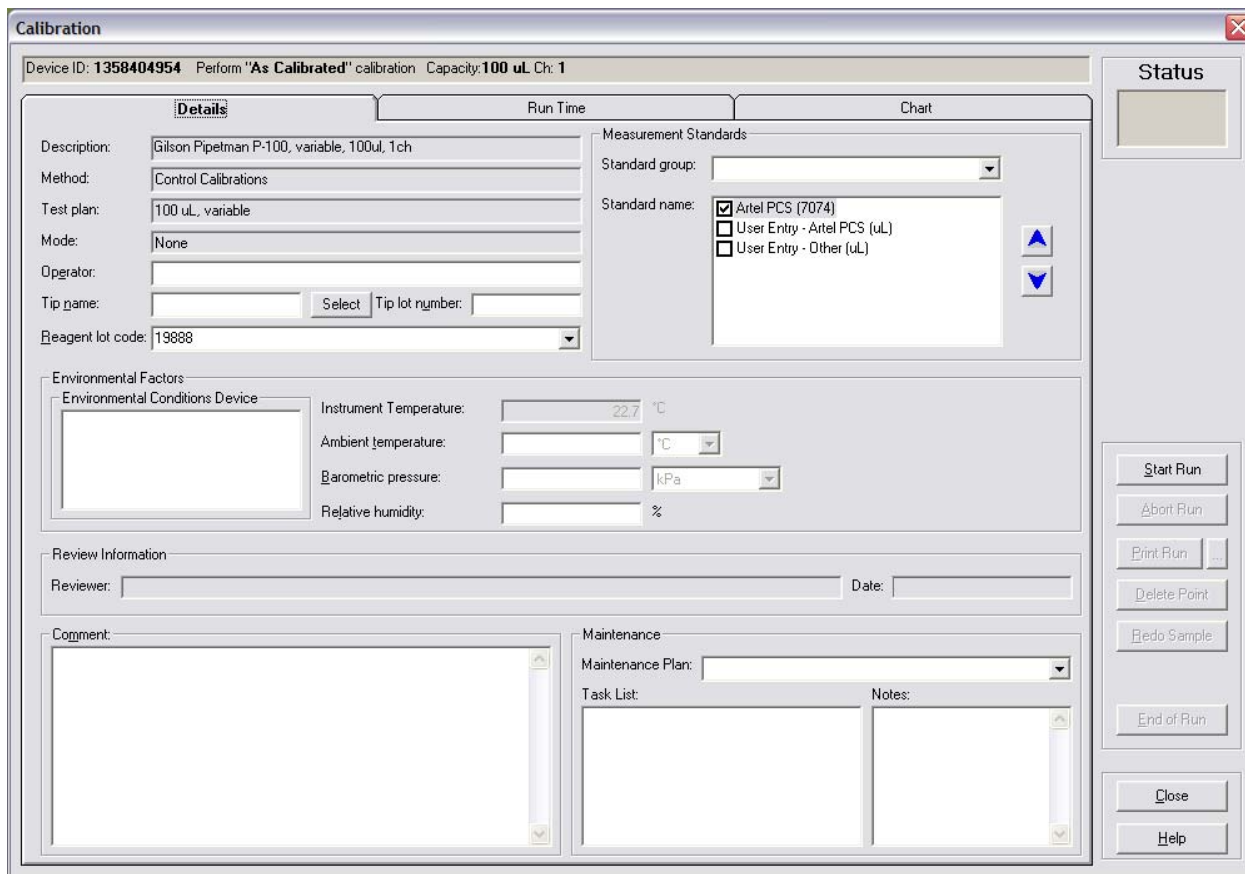

Figure 2
3. On the Calibration dialog, select the correct Reagent Lot Code. (See Figure 2) The Lot Code is shown on the reagent vials, the reagent kit insert and on the exterior of the reagent box. The PCS maintains a library of up to 6 previously entered Lot Codes. If the Lot Code to be used matches one that was previously entered, choose the Lot Code and select Start Run and proceed to step 6. If the Lot Code is new, choose "Not Listed". Select Start Run. The program will now ask for the Lot Code information to be entered directly into the PCS as described below.